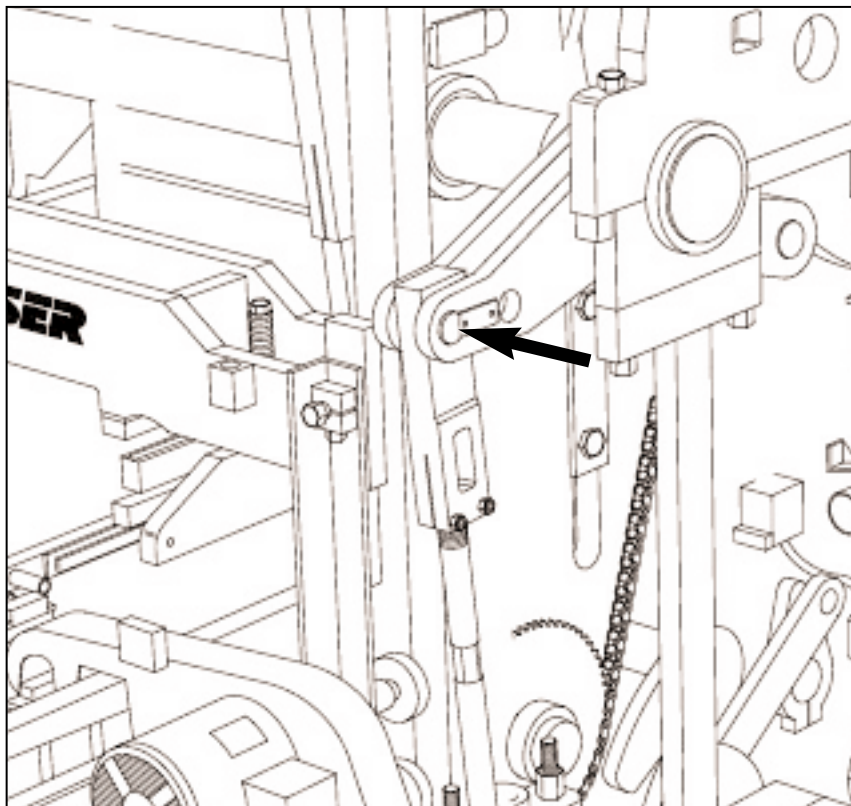

Figure 4.1 PALLET RECEIVER SHAFT POSITION.
4.1.1 The following items should be positioned as shown in figures 4.1 and 4.2:
- a Pallet receiver shaft - position pins in inside holes (short stroke)(see figure 4.1 below).